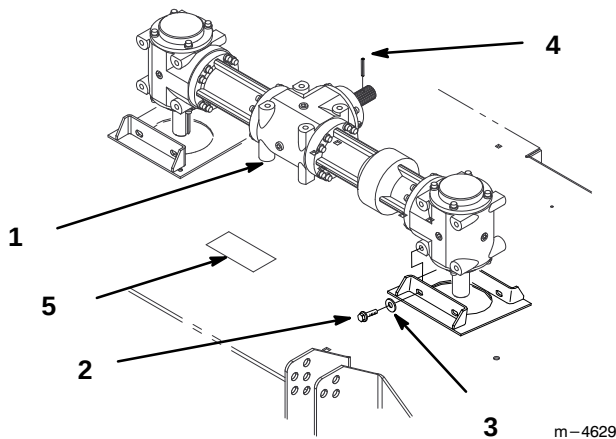

Figure 1
1. Place new gearbox on deck. The vertical output shafts should be centered in the two cone-shaped recesses in the top of the deck (Fig. 1).
3. Insert bolts, with washers, through mounting brackets and into gearbox mounting holes (Fig. 1). Torque mounting bolts to 260 ± 25 in-lbs.